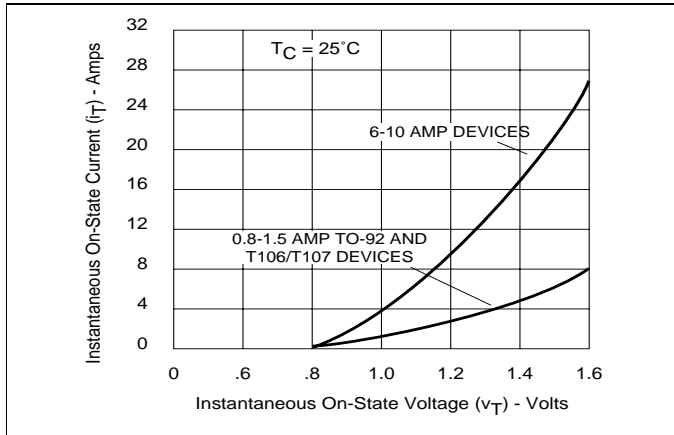

Figure 5.11 Instantaneous On-State Current vs On-State Voltage (Typical)
- (3) See Figure 5.11 for instantaneous on-state current (I_T) vs on-state voltage (V_T) - (typical).